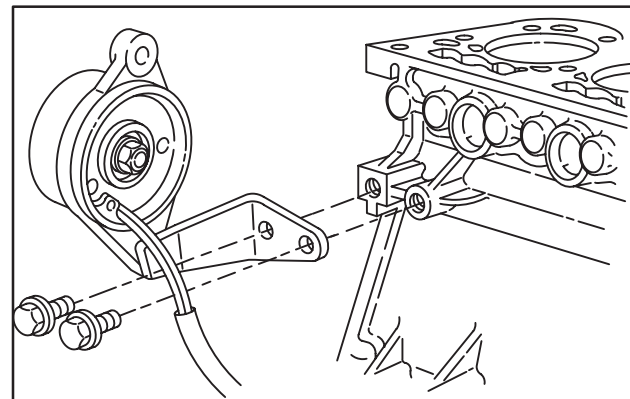

Fig. 20 – Install Alternator
- Install alternator bracket and alternator, Fig. 20.